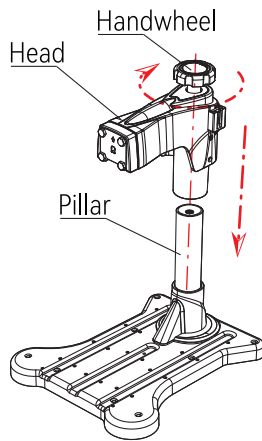

Fig 1
1. Put the head into the pillar and rotate the handwheel 10 times clockwise, which indicates that the head is installed (as shown in fig1).